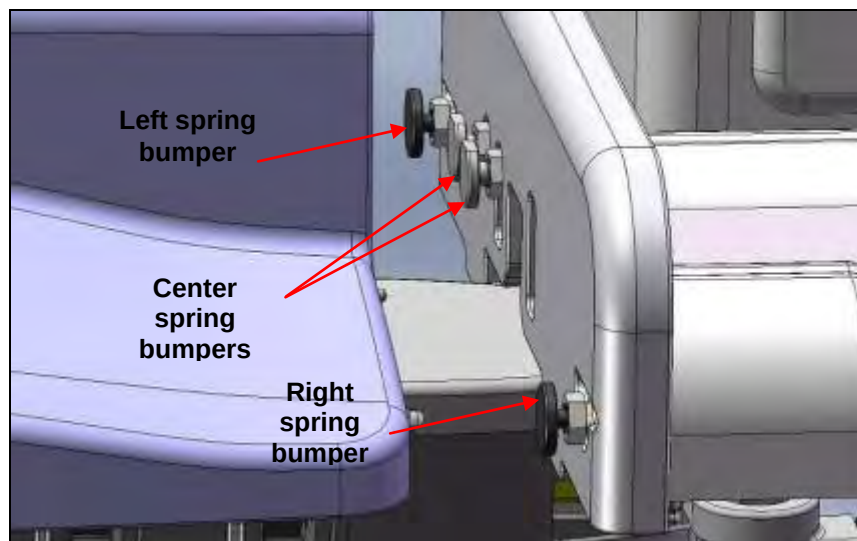

Figure 17
11. Check to ensure the left and right spring bumpers are protruding out more than the two center spring bumpers (Figure 17).